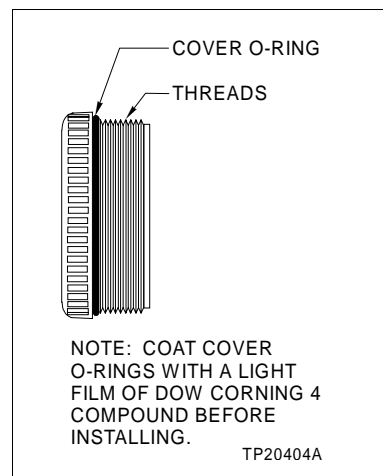

Figure R8-1. O-Ring, Cover Replacement
Refer to Figure R8-1 as a visual aid when performing this procedure.
4. Install the new O-rings. They must go completely beyond the threads of the housing cover (Fig. R8-1). When installing the O-rings, be careful not to damage them on the threads of the housing cover.